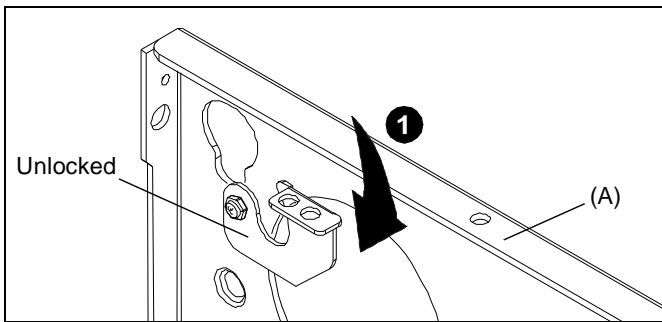

Figure 14
1. With display securely supported, unlock display from TPS (A) by lowering the Q-Latch flag all the way down to the unlocked position. (See Figure 14)